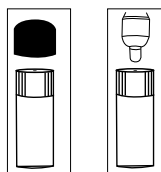

Figure 3A Figure 3B
2. Remove the vinyl cap from the vial to expose the small leak hole as shown in Figure 3A below. **DO NOT UNTWIST THE BLACK CAP FROM THE BOTTLE.**